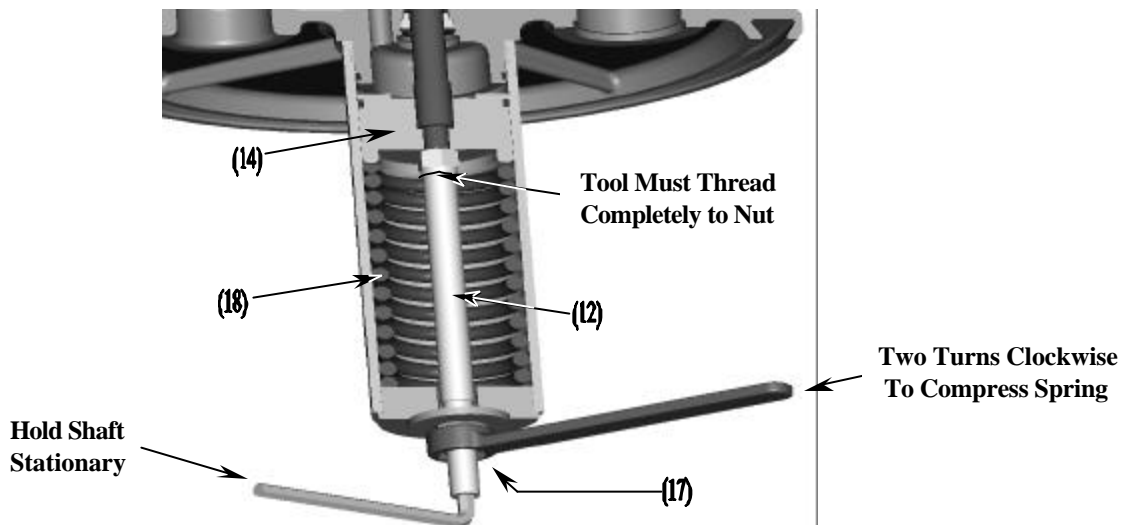

Figure 9
9. At this point, a 7/32 allen wrench must be used to hold the shaft of the tool stationary with respect to the cylinder, while an 11/16 wrench is used to turn the *Tool Nut (17)* clockwise. Once the nut has made contact with the cylinder, turn the nut two complete turns to compress the *Spring (18)*. See figure 9.